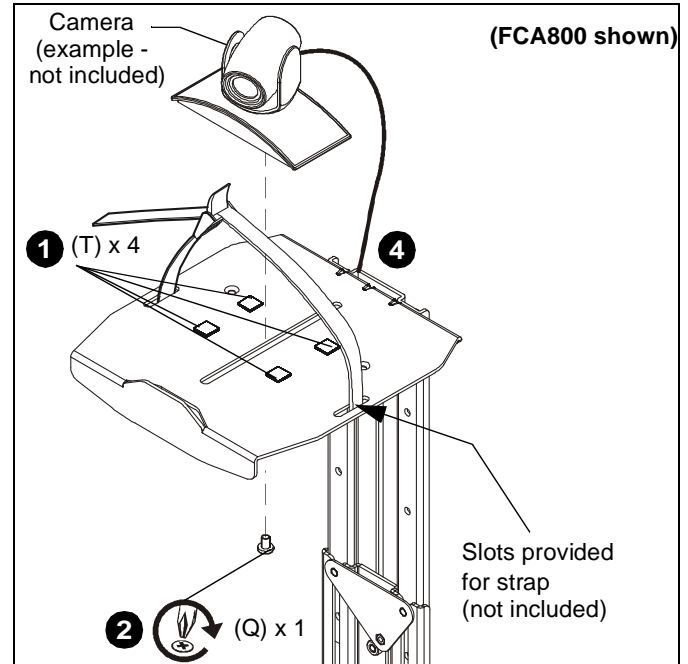
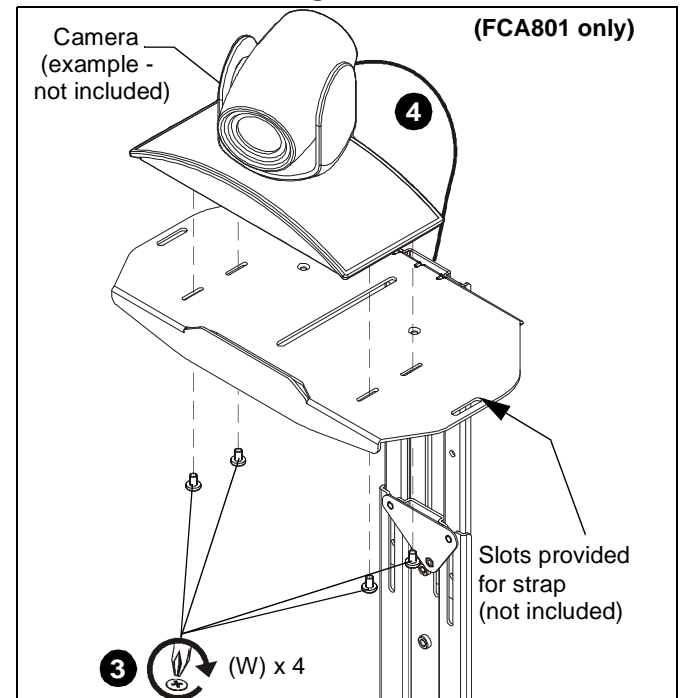

Figure 27
Figure 28
2. (Single Screw option) Install 1/4-20 x 3/8" Phillips pan machine screw (Q) through mounting slot on shelf and into hole on bottom of camera. (See Figure 27)
3. (Multiple screw option - FCA801 only) Install four #4-48 x 1/4" Phillips pan machine screws (W) through outside mounting slots and into holes on bottom of camera. (See Figure 28)
4. Route cable from camera towards back of shelf and down behind the FCA800/801. (See Figure 27) and (See Figure 28)
**WARNING:** Camera must be secured to FCA800/801 shelf using either adhesive hook and loop squares (T) or screws (Q or W)! Failure to securely mount camera to shelf may result in serious personal injury or damage to equipment!
**NOTE: OPTIONAL:** Slots are provided in shelf for strap (not included) to hold camera in place. (See Figure 27)